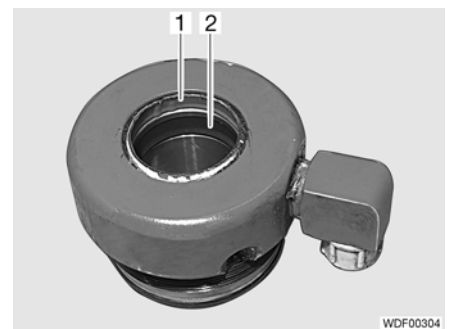

Fig. 199 Outside of the guide bush
- Remove sealing ring (Fig. 199,2).
- Remove dust separator (Fig. 199,1).